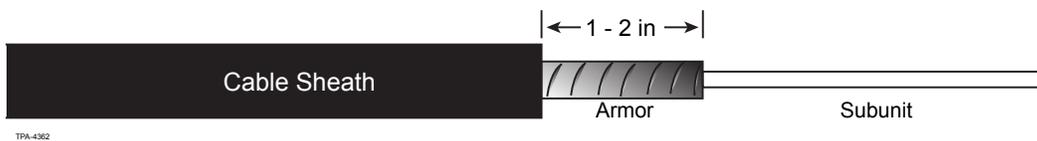

Figure 19
- Step 1:** Measure and mark 2.4 meters (8 ft) of cable. Cut cable sheath with the coaxial cable stripper at the mark and remove the cable sheath to the end of the cable (Figure 19).